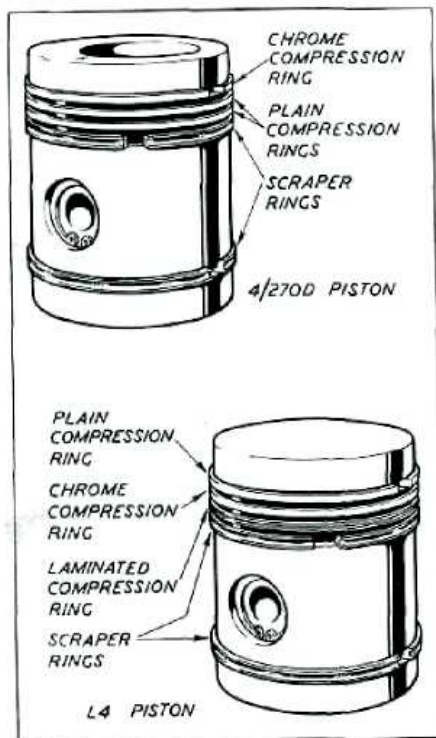

Fig. B.7 - L4 and 4-270D Pistons.
Four-270D pistons have the chrome ring fitted to the top groove. Early L4 information stipulated that the chrome ring was to be fitted in the top groove but this was later altered to the second groove. The type and arrangement of piston rings for both engines are as shown in Fig. B.7.
3. Fit the rings to the piston in the order shown in Fig. B-7. The gaps of the two compression and scraper rings must be arranged so that they are equally spaced around the piston and not in line with one another.